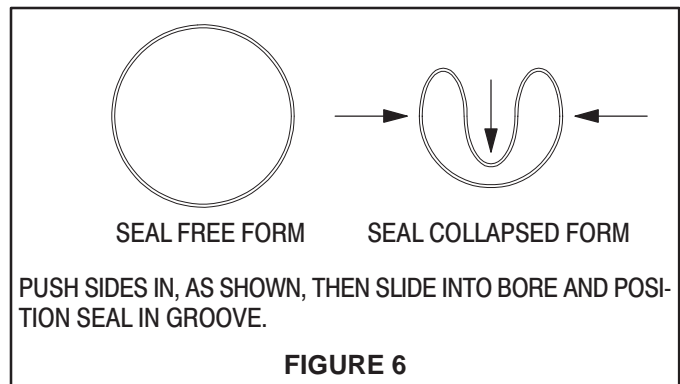

FIGURE 6
11. Install (16 and 41) "O" rings on (39) gland.
12. Grease the bore in (19) head assembly and insert (39) gland assembly into bore of (19) head assembly with a twisting motion.
13. Align holes in (39) gland and (19) head assembly and secure with four (22) screws.
14. Install (21) "O" ring on (19) head assembly.
15. Push (36) extension rod thru (41) "O" ring in the base of (19) head assembly.
16. Press (19) head assembly down, seating against (28) cylinder and (29) tube assembly.
17. Insert four (42) bolts down thru the holes in the flange of (19) head assembly and (30) base assembly.
18. Screw four (47) nuts on (42) bolts. Alternately and evenly tighten four (47) nuts.
19. Install (20) "U" cup in (38) adapter, with the lips down toward the thick flange of (38) adapter.
20. Install (35 and 16) "O" rings in the (33) gland.
21. Bend (34) seal in a heart shape (see figure 6 below) and install in (33) gland, next to (35) "O" ring (see figure 7 below).